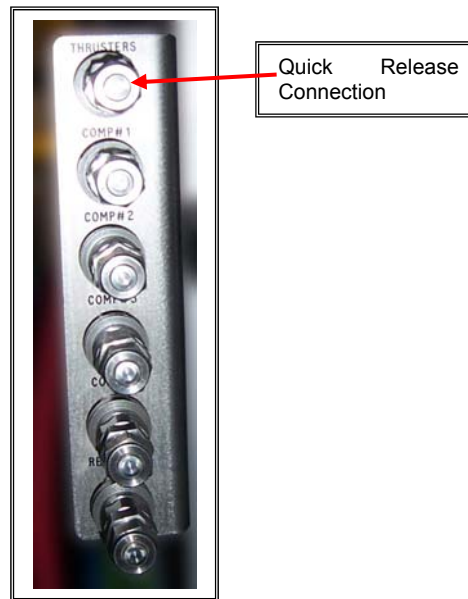

Figure 2 - Compensator Fill Quick Release Connection
2. Clean the quick release coupling on the compensator fill-point (see Figure 2).